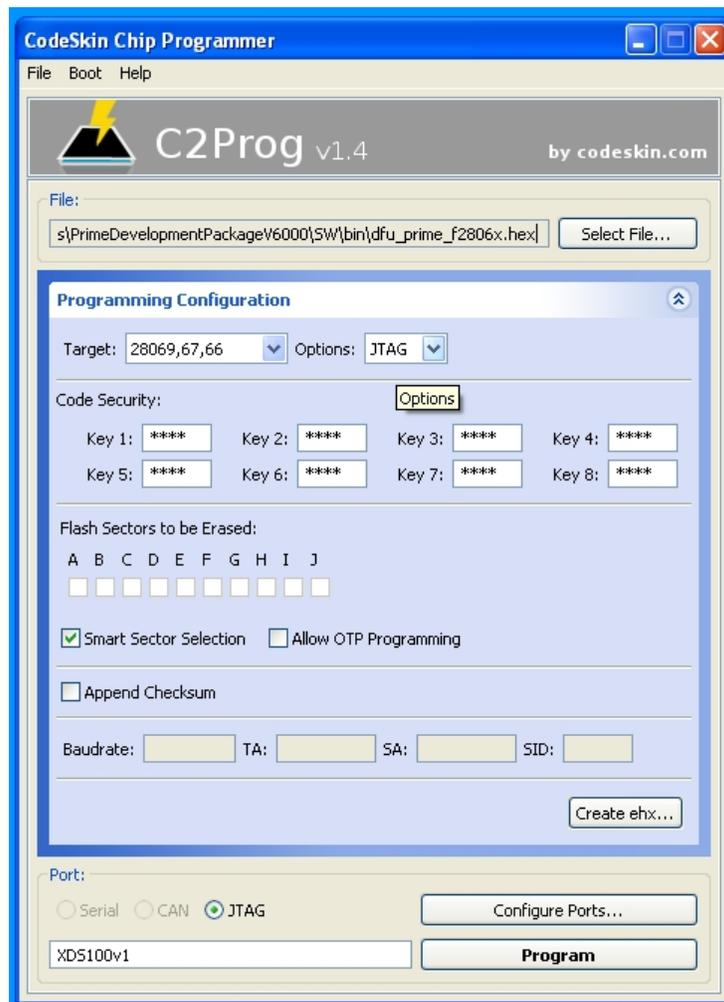

Figure 3. Selecting G3-PLC Binary to be Flashed (Through XDS100)
6. Program the *.hex (located in c:\Texas Instruments\<PackageName>\SW\bin) as shown in Figure 3. Select "28069,67,66" in the Target pull-down and "JTAG" in the Options pull-down.